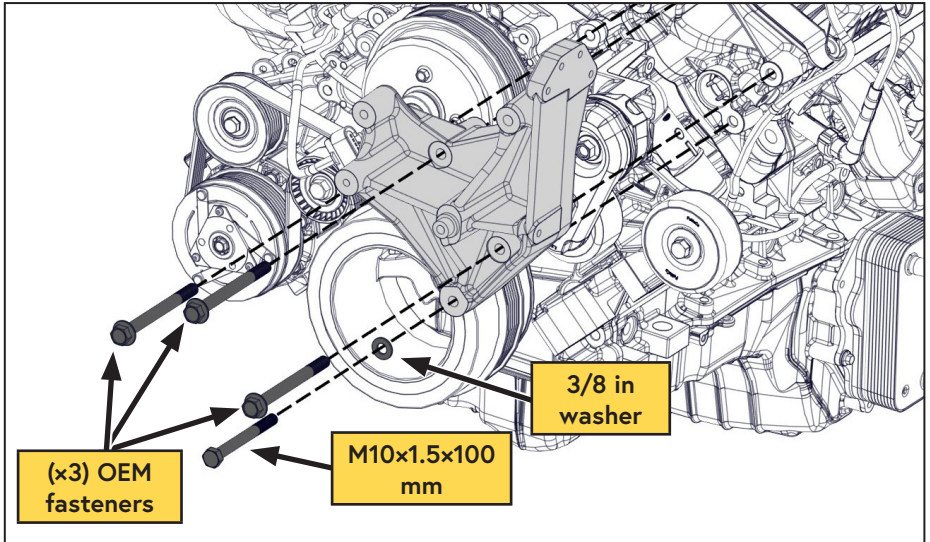

Figure 5 — Install main bracket
- Using (x3) of the OEM fasteners, and the supplied bolt and washer, install the VMAC main bracket (Figure 5).